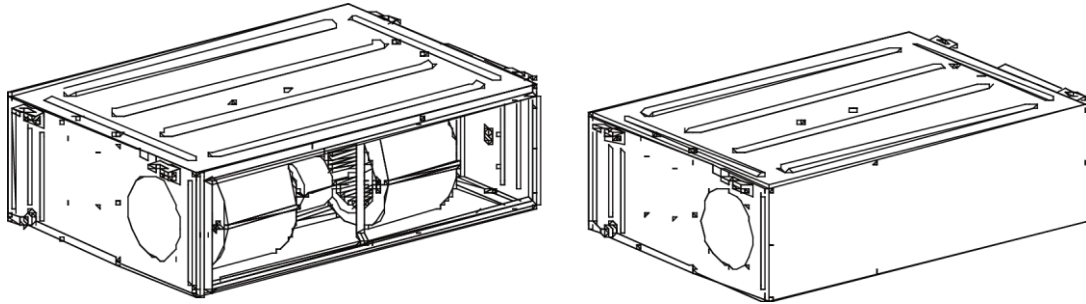

Fig 4.4.6
(1)The default installation location of the rectangular flange is at the back and the return air cover plate is at the bottom, as shown in Fig 4.4.6.